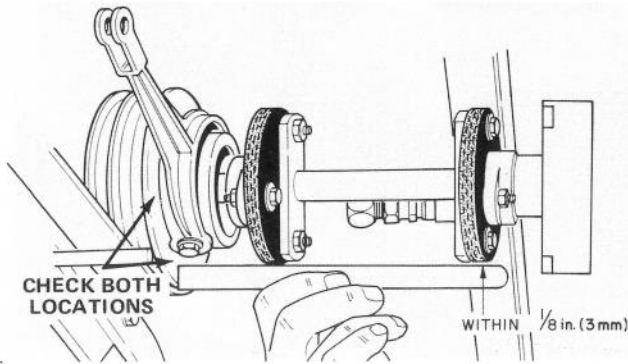

Figure 57
- 1. Check alignment of drive couplings, place square end of ruler or scale against face of drive pulley and bottom of coupling retainer to check vertical alignment (Fig. 57). Also, place ruler or scale against face of drive pulley and side of coupl-
ing to check horizontal alignment (Fig. 57). If there is more than 1/8 inch (3 mm) between ruler or scale and opposite coupling retainer, or the scale is more than 1/8 inch (3 mm) higher than bottom of coupling during vertical alignment check or scale does not align within 1/8 inch (3 mm) of side of coupling, an adjustment is required. To correct for misaligned drive coupling, proceed to step 2.